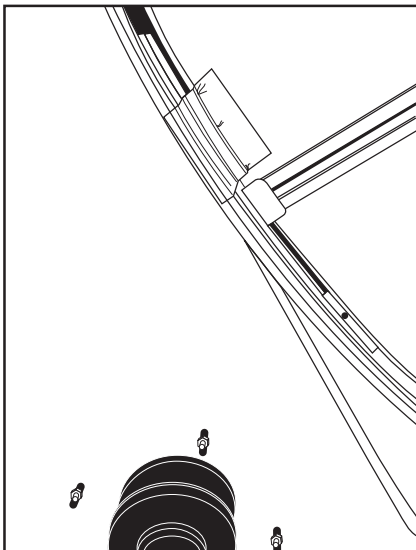

Fig. 197 — Belt Attached to Wheel Rim
3. At location near pulley, attach the hook end of belt to wheel rim with tape, making sure that narrow side of “V” belt is positioned against rim and link is covered by the tape (see Fig. 197).